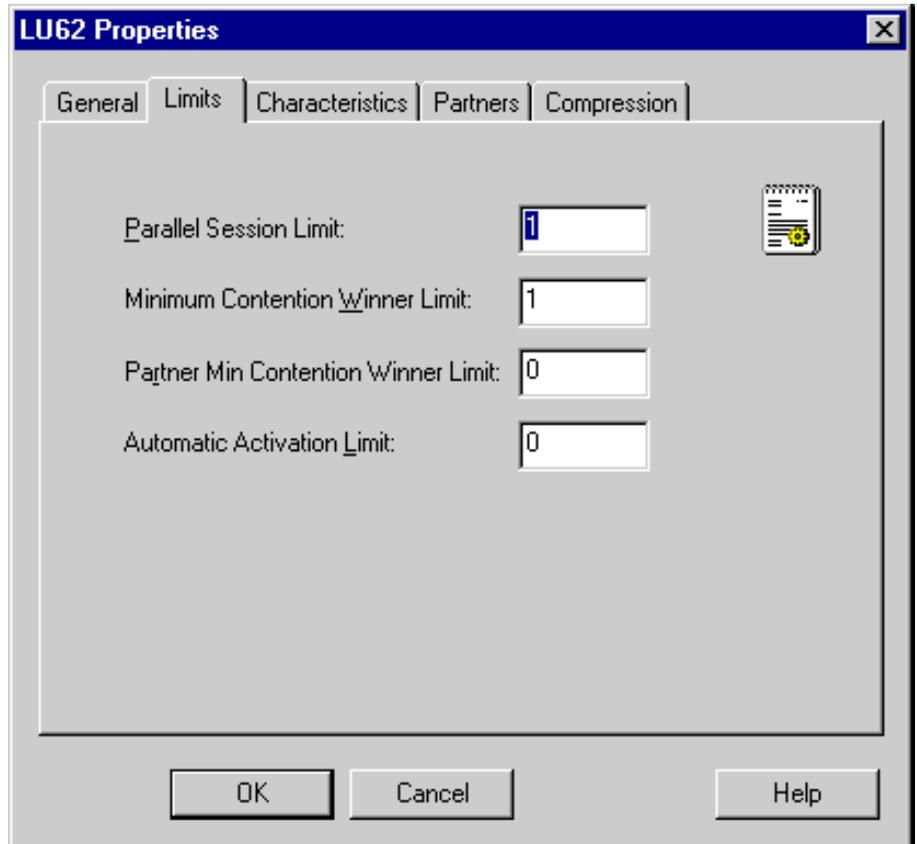

Figure 49. Configuring APPC modes: limits page
- 5 Keep the default value for the following fields, as shown in Figure 49: